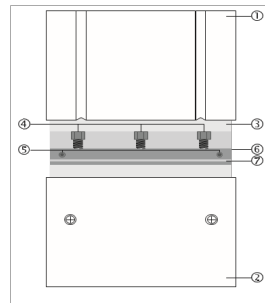

Fig.2
#### Description for fig. 2:
### **Replacing the floating blades (fig. 2)**
6. Height adjustment of the blade fixing unit is performed using two height adjustment screws (see P.5 Fig. 2): rotation of each screw by the direction arrow raises the side of the unit corresponding to it. Conversely, counterclockwise rotation of the screws will lower the blade locking unit relative to the back plate (the electric plane may not be equipped with a key to adjust the height screws)
7. After completing the adjustment of the height of the blade fixing unit, it is necessary to securely tighten all the screws (see item 4 of Fig. 2)